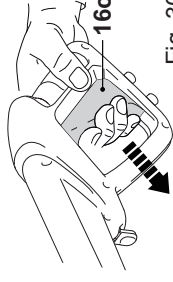
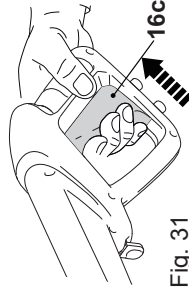

Fig. 30
Fig. 31
1. Release the trigger (16c) (Fig. 30)
2. Turn the on/off switch (3) to "O" (off).
4. Press the trigger (16c) to release the pressure still present in the product (Fig. 31).